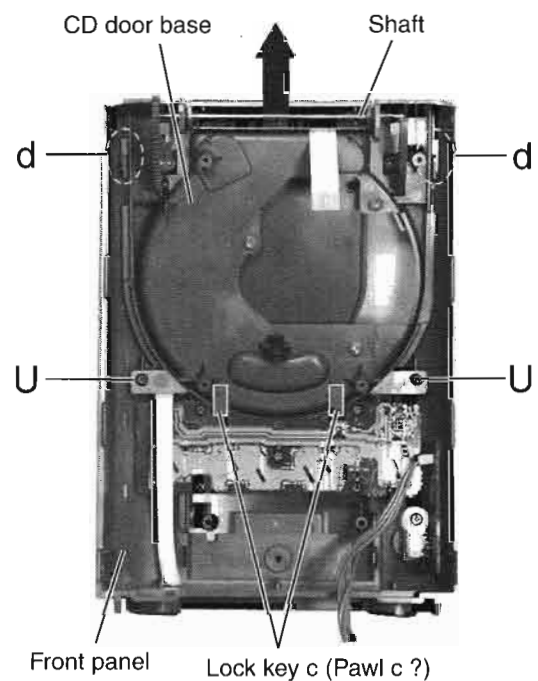

Fig.20
■ CD door assembly (Refer to Fig. 20.)